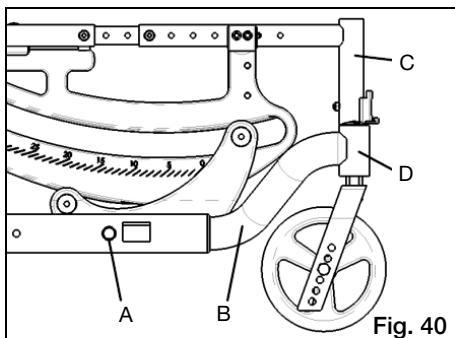
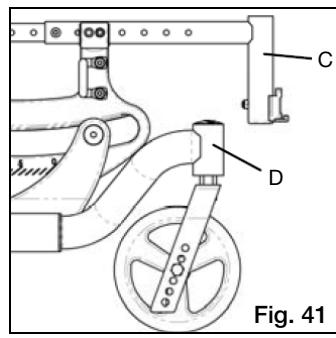

Fig. 40
Fig. 41
- Using 13mm wrench, remove 8mm hex bolt (Fig. 40:A).
- Slide caster arm (Fig. 40:B) to desired location, aligning holes in caster arm with hole in base frame.
- The back of hanger and the receiver tube (Fig. 40:C and 41:C) should not be positioned beyond the front of the caster stem bearing tube (Fig. 40:D and 41:D) as shown in Fig. 41. If it does, follow steps A. through D. until it appears as shown in Fig. 40.